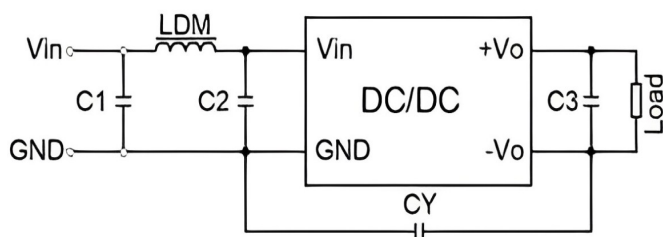

Fig. 5
3. For EMC typical recommended circuit, See Figure 5.